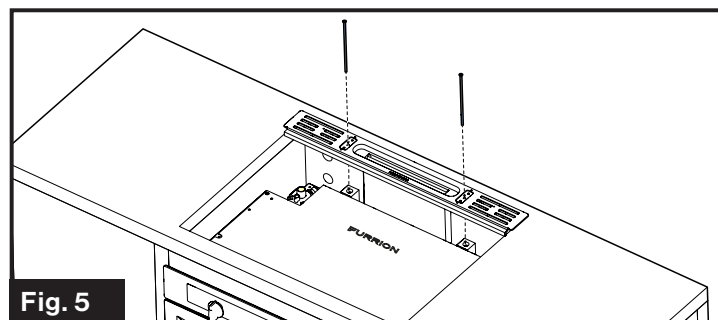

Fig. 5
2. Fix the vent assembly to the oven with the two screws provided (M4x140mm) and tighten with screwdriver. Do not over tighten. (Fig. 5)